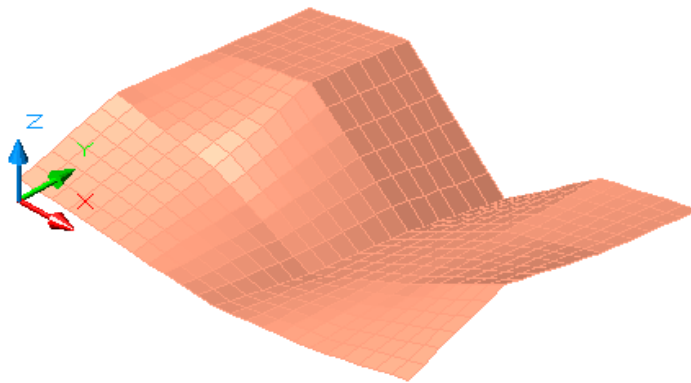

Figure Step 16
Step 16 On layer: Surface 4, using the EDGESURF command, create surfaces in all grid squares to cover the model. When complete, the model will appear as shown in the figure. (Figure Step 16)